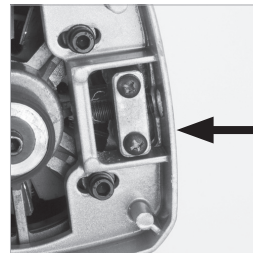

Fig. 48
- The tensioning screw **(Fig. 48)** is accessed through a hole in the rear of the aluminum transmission case.